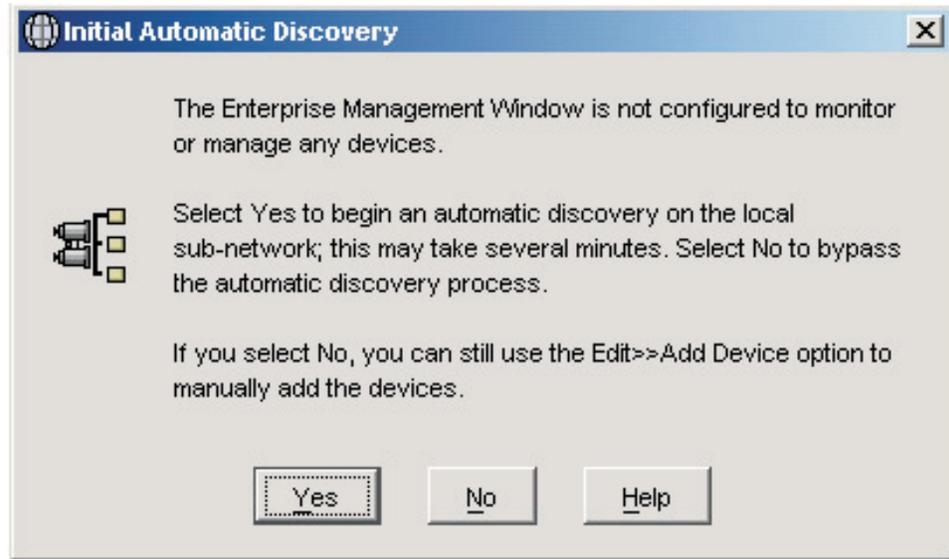

Figure 24. Confirm Initial Automatic Discovery window
2. Click **IBM DS4000 Storage Manager 9 Client**. The client software starts and displays the Enterprise Management window and the Confirm Initial Automatic Discovery window as illustrated in Figure 24.